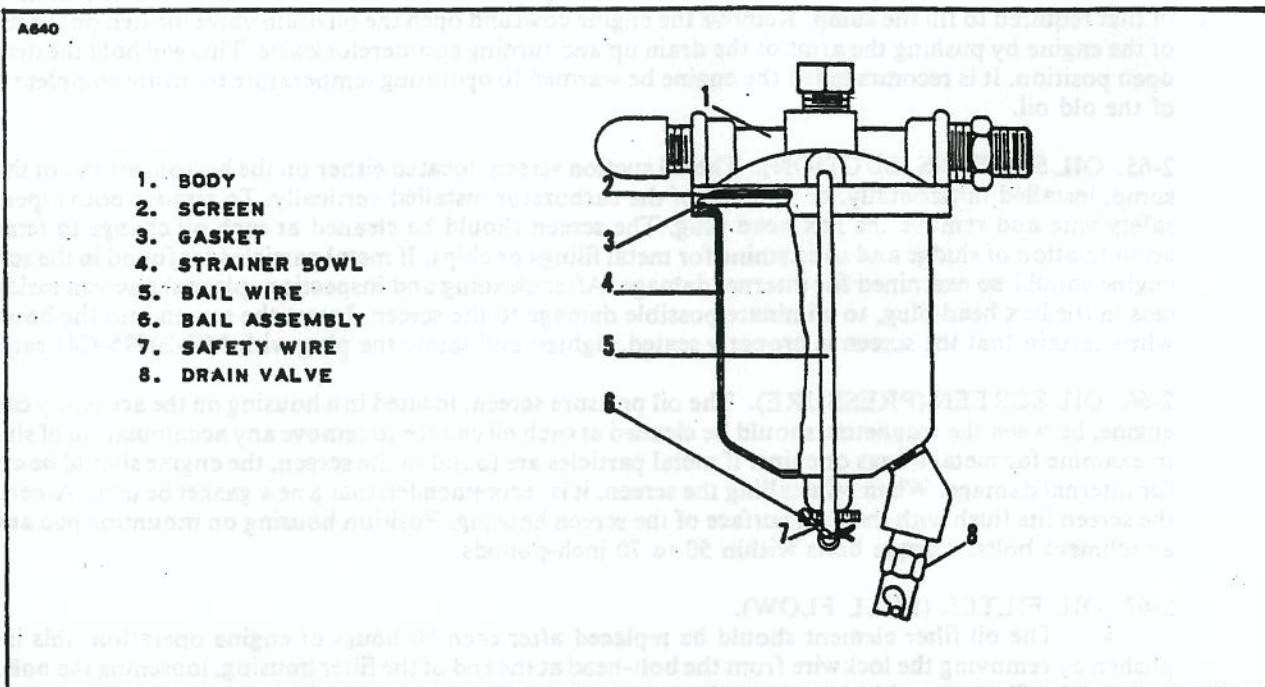

Figure 2-9. Fuel Strainer
a. The fuel strainer, equipped with an easy drain valve is mounted on the lower left side of the fire wall. The fuel strainer should be drained regularly to check for water or dirt accumulations. (Refer to Figure 2-9.)